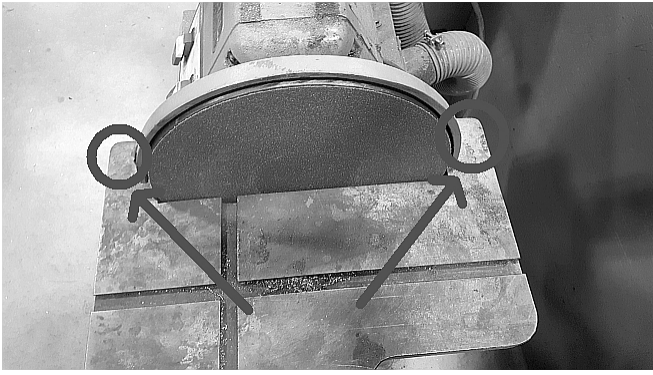

Figure 1.
2. Temporarily place mounted safety guard on the disc sander table. Place the guard no more than ¼" distance from the grinding disc surface. Notice where the mounting points will be on the table (See figure 1.)